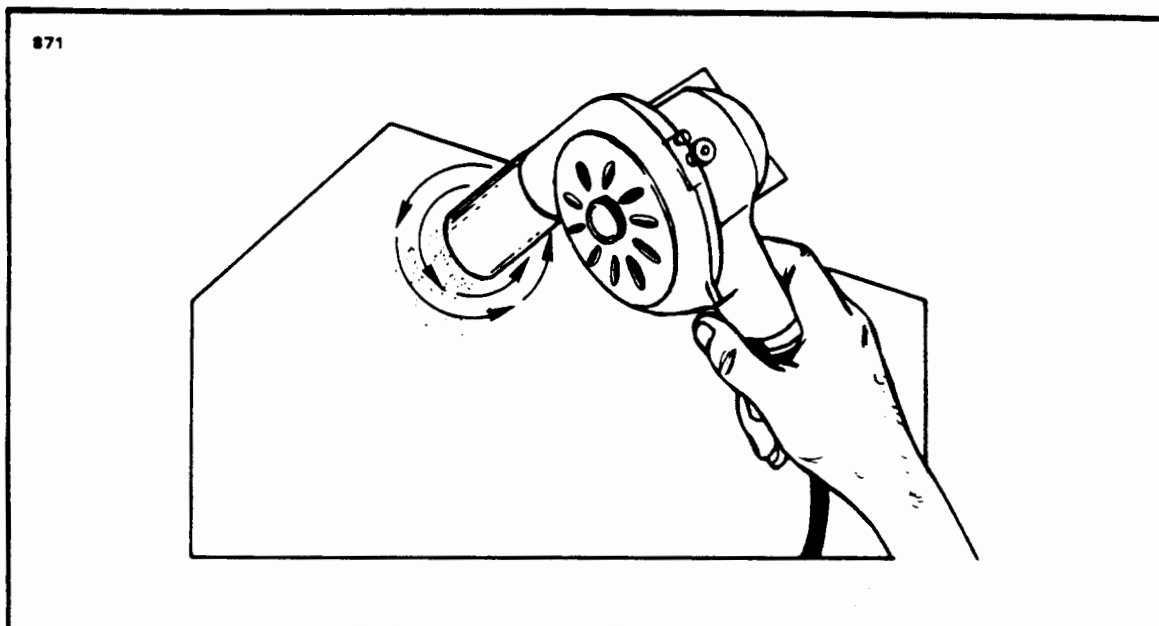

Figure 4-11. Surface Scratches, Abrasions or Ground-in-Dirt
b. Surface Scratches, Abrasion or Ground-in-Dirt: (Refer to Figure 4-11.)